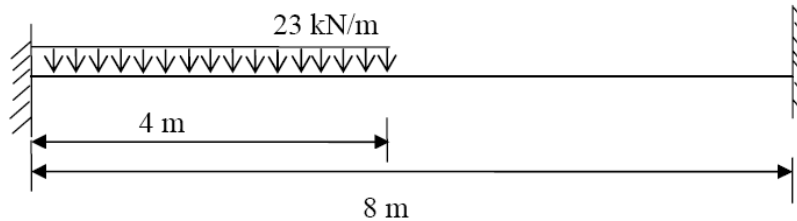

Figure 5:
5. Analyze the fixed beam shown in Figure 5 and draw shear force and bending moment diagrams. Locate the points of contraflexure. [16]